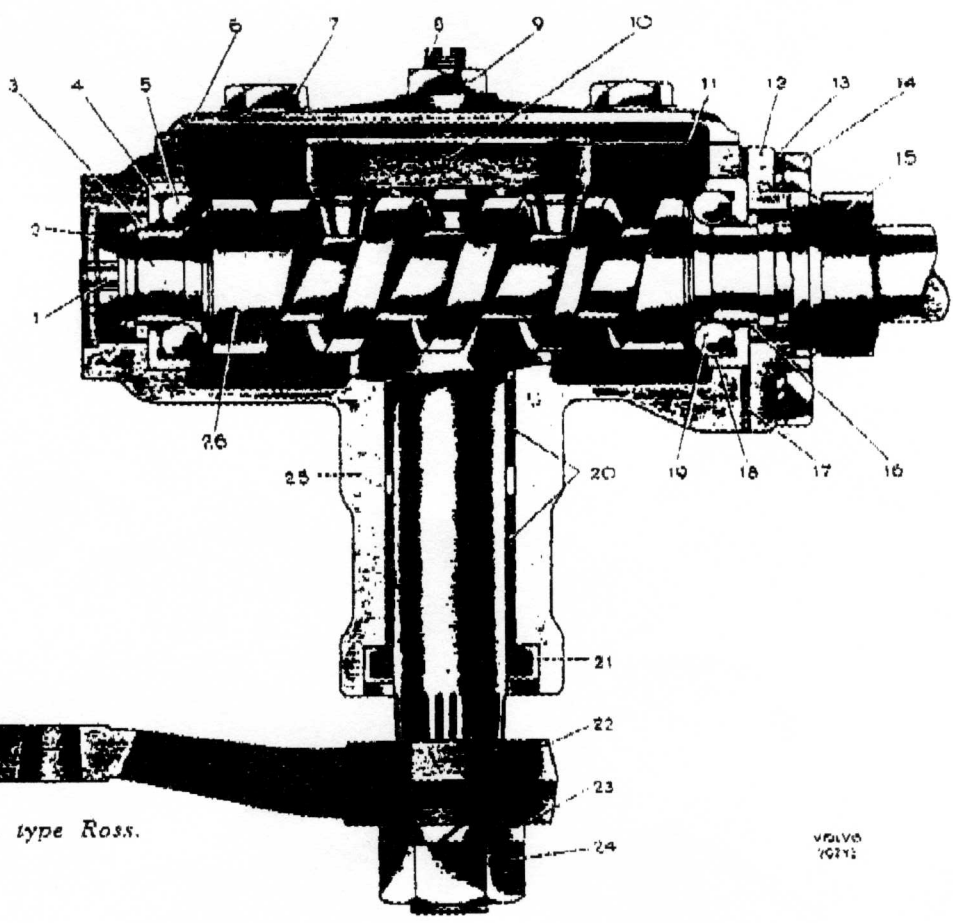

Fig. 21. Steering box, type Ross.
3. Remove the cover (6, Fig. 21) and drain off the oil. Lift out the pitman arm shaft.
4. Unscrew the three bolts for the cover (12) and lift this off. Take care of the adjusting shims.